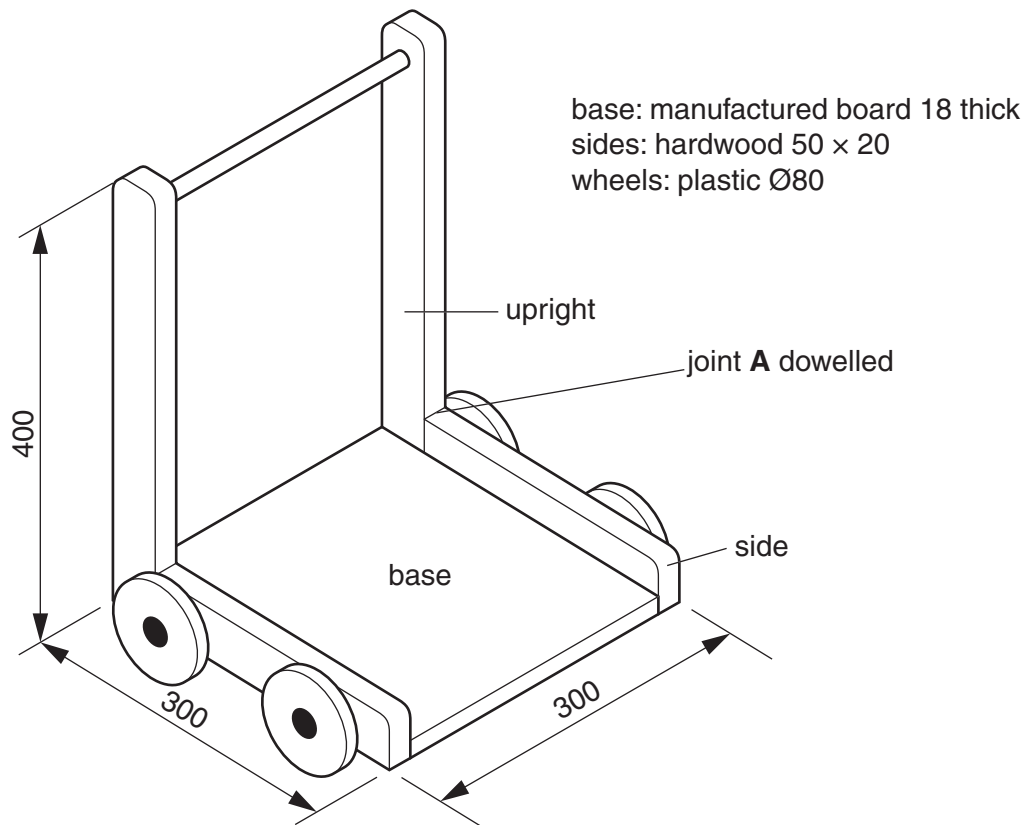

Fig. 2
- 2 Fig. 2 shows views of an incomplete design for a push along toy made mainly from wood.